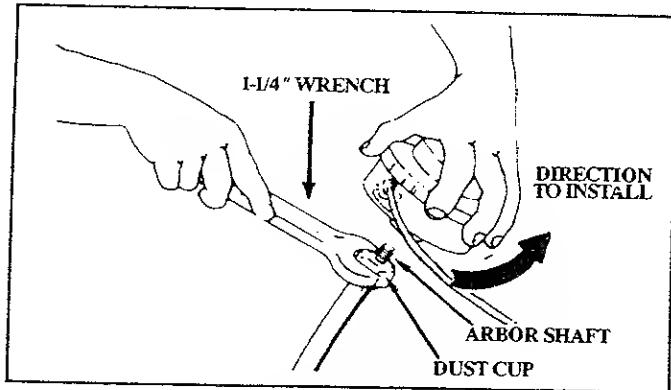

Figure 2
### 2. TRIMMER HEAD — Figure 2
- b. Hold the Dust Cup with a wrench to keep the Dust Cup from turning. Figure 2.
- c. Thread the Trimmer Head clockwise  (from the engine end) onto the Arbor Shaft, against the Dust Cup, and as tight as possible with your hand. Figure 2.